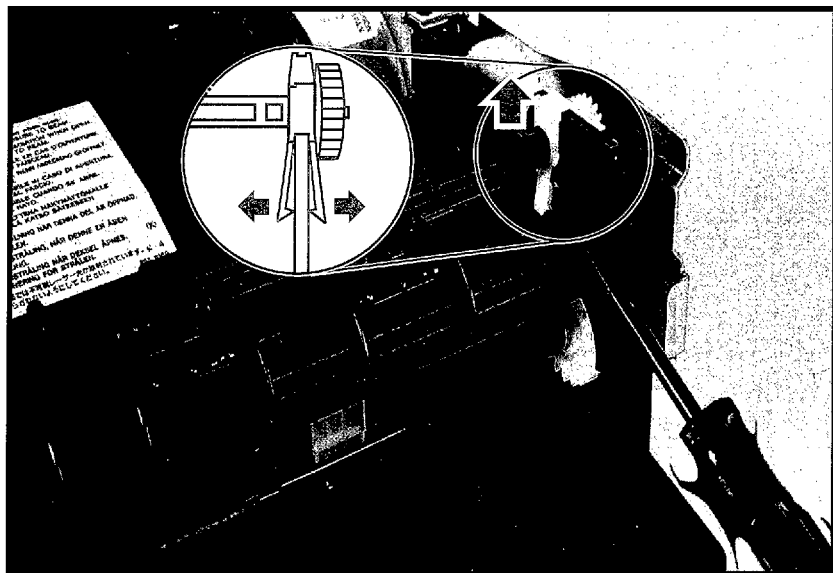

Figure 6-34 Removing the Upper Output Roller Assembly
2. Using a flat-blade screwdriver, release the two-sided tabs from each end of the Roller Assembly (Figure 6-34).
2. Remove the Upper Output Roller Assembly (Figure 6-34).